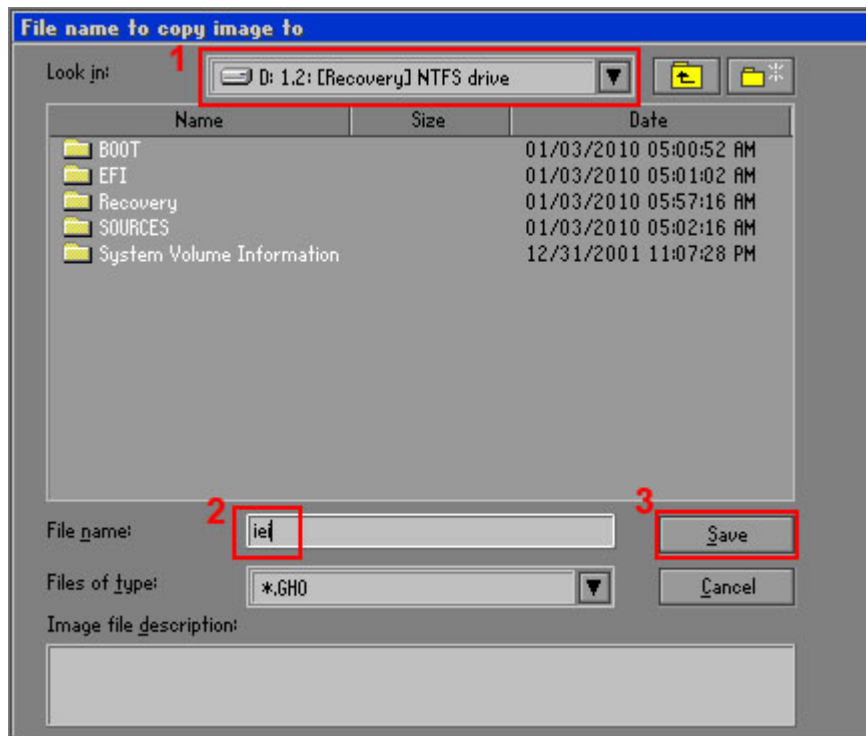

Figure A-13: File Name to Copy Image to
Step 7: Select 1.2: **[Recovery] NTFS drive** and enter a file name called **iei** (**Figure A-13**). Click **Save**. The factory default image will then be saved in the selected recovery drive and named **IEI.GHO**.